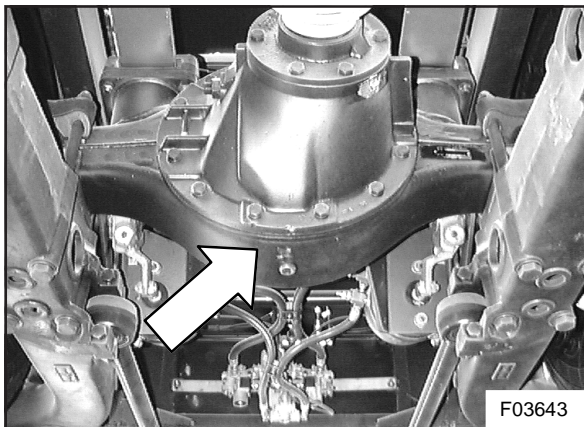

Figure 3 : Drive axle differential jacking point
7. Jack up the rear of the coach at the drive axle differential housing (see Figure 3), until the drive wheels are off the ground.